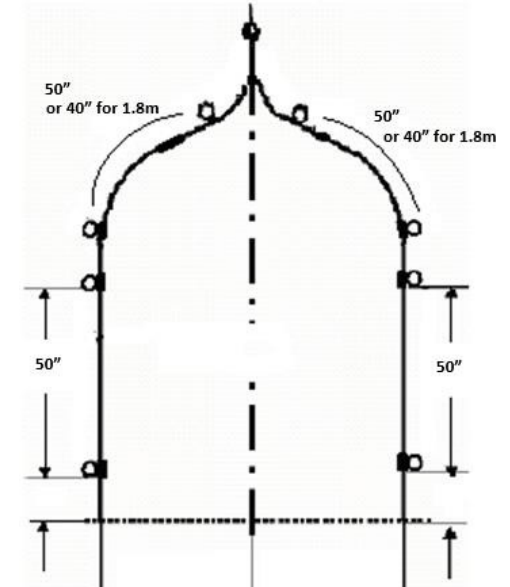

Figure 1: Positioning of the Pergola Cross Poles
- The second Pergola Cross Pole needs to be placed 50" below the top Cross Pole, to allow for the lattice infill as illustrated in Figure 1. This may require the second cross pole to be positioned on the join between the curve and the upright. Please note that this will change to 40" for the 1.8m width (40420-TBK).
- If you are have chosen the lattice option you will need to position the Cross Poles, on the uprights, approximately 50" away from one another, as illustrated in Figure 1, to accommodate the lattice infill.